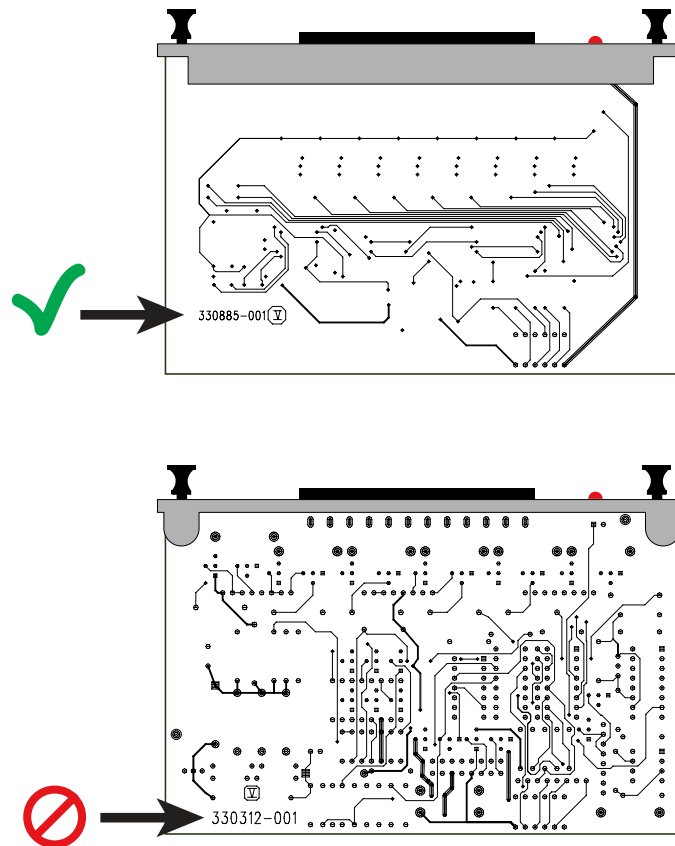

Figure 1. Verifying correct PLLD module (P/N 330885-001)
2. Turn the PLLD Interface Module over and look for the part number on the board (see Figure 1).